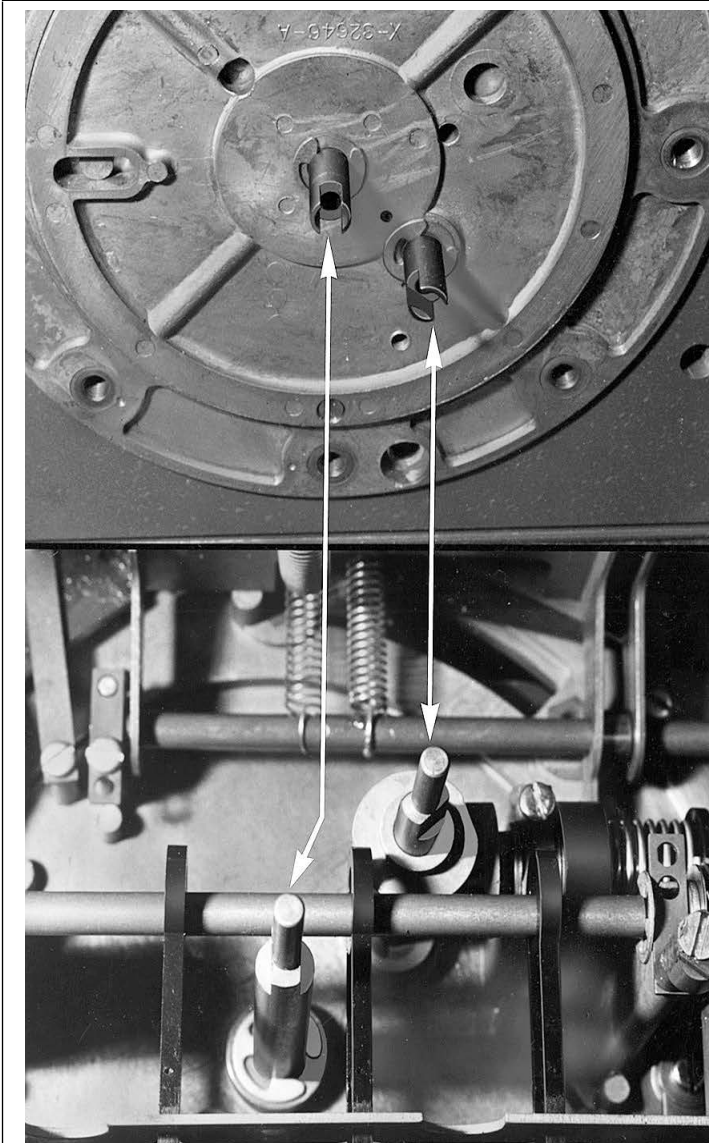

Figure 7. Shaft Alignment Before Installation of Meter Register on Meter Preset
12. Install the Meter Register on top of the Meter Preset with attention to proper alignment of the two “up-down” shafts (Figures 7 and 8). Secure the units together with the four bolts and a new lock wire.